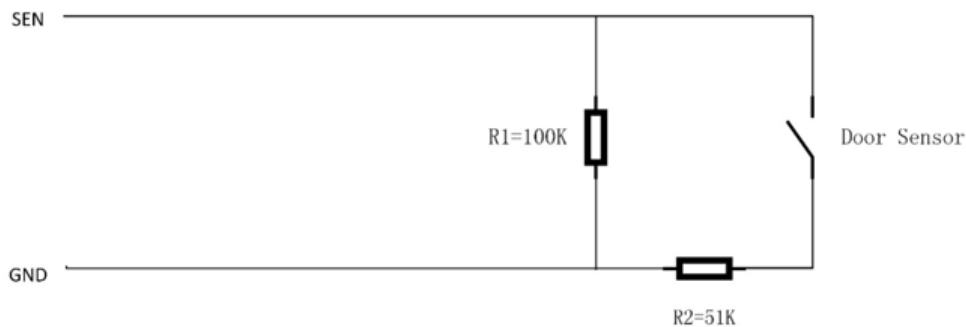

Figure 3-6-1
- While using supervisor functions, connect two resistor like figure 3-6-1, $R1=100K\ \Omega$, $R2=51K\ \Omega$.